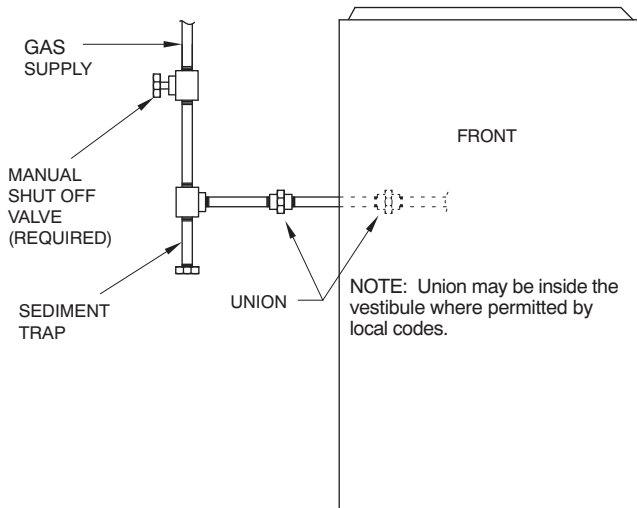

Fig. 34 - Typical Gas Pipe Arrangement
Install a sediment trap externally in the riser leading to furnace as shown in **Fig. 34**. Connect a capped nipple into lower end of tee. Capped nipple should extend below level of furnace gas controls. Place a ground joint union between furnace gas control valve and exterior manual equipment gas shutoff valve.
1. Drill two (2) 1/8-in. (3 mm) pilot holes through the dimples in the furnace casing near the 7/8-in. knock-out on the side of the casing. Do not remove the knock-out in the side of the casing.
9. Connect field power and neutral leads to furnace power leads inside the external electrical box as shown in Fig. 34.